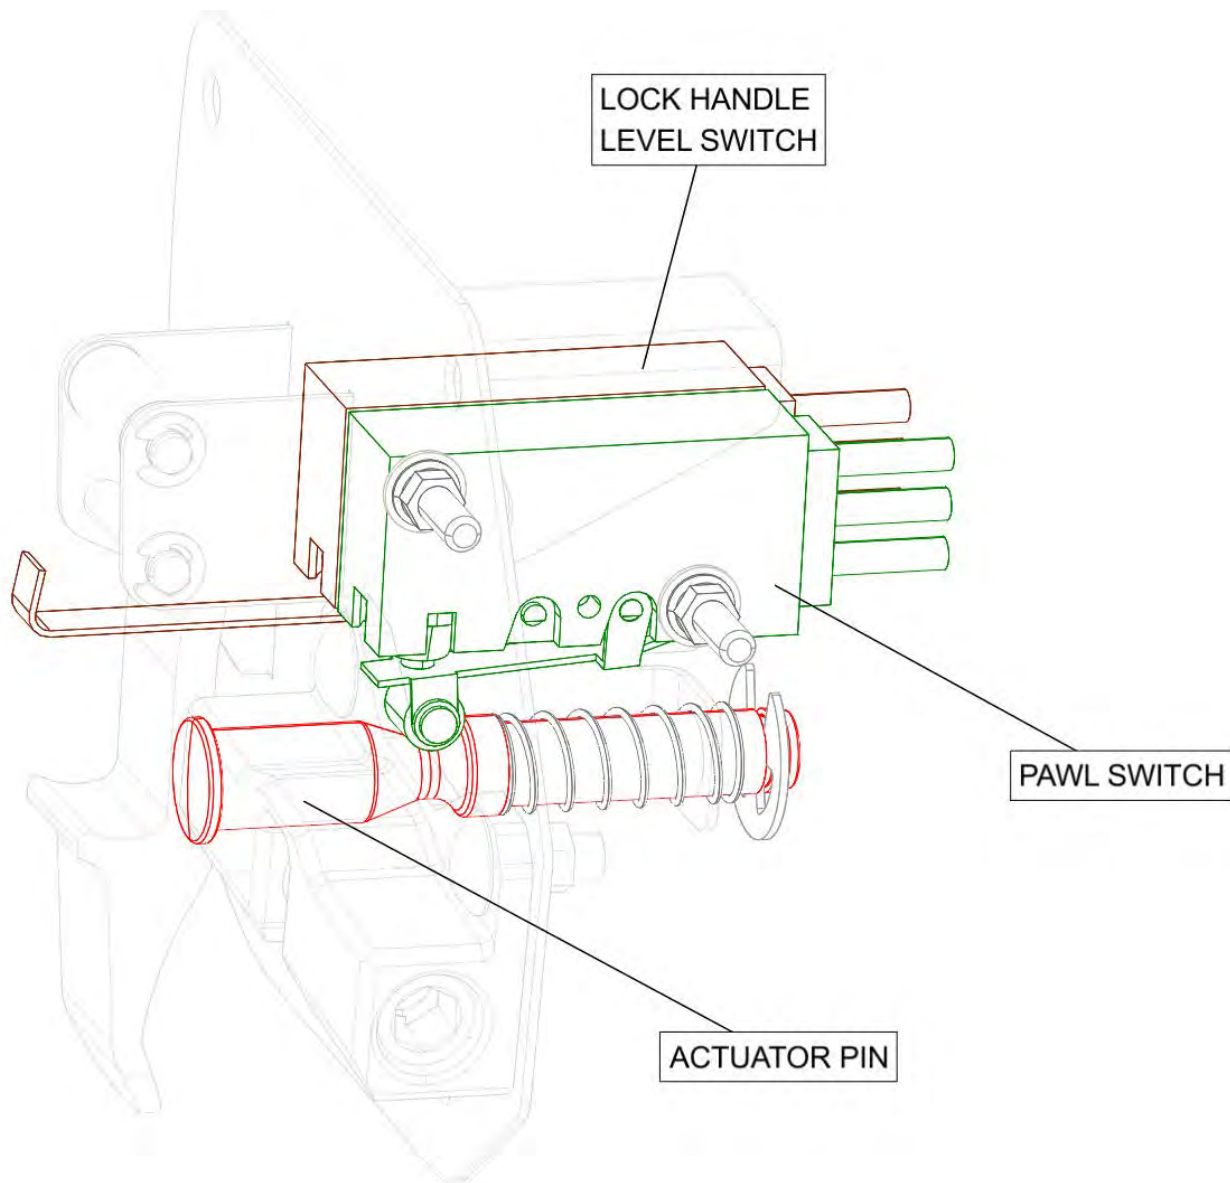

FIGURE 18-7
1. The position of the locking pawl is sensed by a micro switch that rides on an hourglass-shaped pin pushed by the pawl. Push this pin in against its spring and verify that it moves freely. As the pin is pushed, two clicks from the switch should be heard as the switch roller follows the shape of the pin. See Figure 18-7.